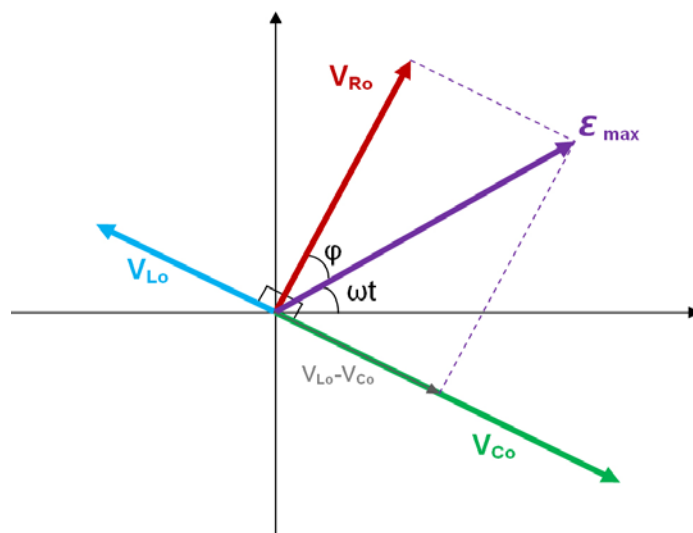

Figure 3: Phasors
2. Does the phasor math implied by Figure 3 give the correct answer? That is, is V_o the phasor sum of V_R , V_C , & V_L ? Before trying this, recall that the V_R values are too small since they do not include the voltage drops across the internal resistances of the capacitor and inductor. We really want $V_R + V_{rL} + V_{rC} = [(R + r_L + r_C)/R]V_R$. We can get the value of the resistance ratio (in the square brackets) by noting that for the resonance case the $V_o = V_R + V_{rL} + V_{rC}$, so $[(R + r_L + r_C)/R] = (V_o / V_R)_{\text{res}}$. Use the resonance data to find the ratio and then correct the value of V_R for the other two cases. Note that this isn't quite correct since the internal resistances are frequency dependent and the V_r 's do affect V_L and V_C a little, but it is a good first approximation.